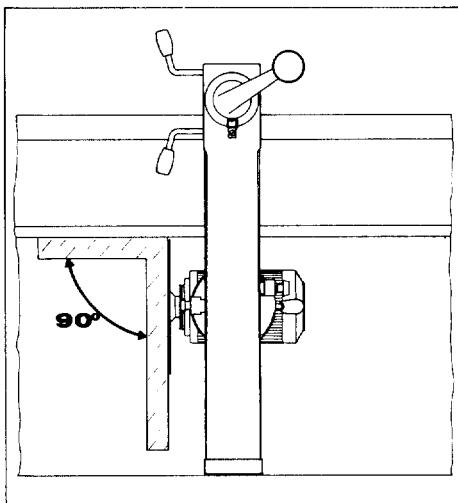

Fig. 8
With the miter engaged and arm clamp handle locked, place a wide board (25x300 mm approx if available) against the guide strip. Cross cut this board. Check cut with a steel square. If cut is not square, the arm is out of alignment with the guide fence. (Fig. 8).
Accertarsi che il nasello del punto fisso del braccio sia bene inserito nella cava a "O" del collare colonna e che la leva di bloccaggio del braccio sia ben stretta; mettere una tavola abbastanza larga contro la battuta e troncarla. Controllare il taglio con una squadra di acciaio, se questa non è perpendicolare al lato posto contro la battuta significa che il braccio non è perpendicolare alla battuta stessa e quindi necessita una regolazione. (Fig. 8).
Engager le verrou d'onglet et bloquer la poignée de serrage du bras, placer une planche assez large (25x300 mm) contre la règle-guide. Tronçonner cette planche. Contôler la coupe avec une équerre d'acier. Si la coupe n'est pas d'équerre, le bras n'est pas aligné avec la règle-guide. (Fig. 8).
Den Ausleger auf 90° einrasten und feststellen. Ein breites Brett (ca. 25x300 mm) gegen der Anschlagleiste legen. Das Brett durchschneiden. Den Schnitt mit einem Anschlagwinkel prüfen. Wenn der Schnitt nicht im rechten Winkel ist, muss der Ausleger nachgestellt werden. (Fig. 8).
Na de arm in haakse stand t.a.v. de langsgeleider te hebben geblokkeerd, wordt een brede plank (ca. 25x300 mm, indien beschikbaar) tegen de langsgeleider geplaatst. Zaag deze plank door. Controleer de zaagsnede met een stalen winkelhaak. Wanneer de zaagsnede niet haaks is, is ook het zaagblad niet haaks t.a.v. de langsgeleider. (Fig. 8).
1. Loosen arm clamp handle (A). (Fig. 9). 2. Loosen the 2 nuts (B). 3. Place steel square on table top with one angle against guide fence and the other a angle of 0° cross-out. (Fig. 8). 4. Move saw carriage and blade forward along steel square to determine which way arm must be adjusted. 5. If saw blade moves toward square as it comes forward disengage mitre latch (C), with handle (D), loosen mitre adjusting screw (E1) and tighten mitre adjusting screw (E2), re-engage mitre latch. Check and repeat if necessary. 6. If saw blade moves away from square as it comes forward, disengage mitre latch (C) with handle (D). Loosen mitre adjusting screw (E2) and tighten mitre adjusting screw (E1), re-engage mitre latch. Check and repeat if necessary. 7. When saw travel is parallel to square for entire length, lock adjusting screws in place by tightening nuts (B). Ensure that adjusting screws (E1 and E2) are held in position, when tightening nuts (B). Observation: Do not tighten adjusting screws (E1 and E2) to such an extent that mitre latch cannot move freely.
1. Sbloccare la leva bloccaggio braccio (A) (Fig. 9). 2. Allentare i due dadi (B). 3. Mettere la squadra di acciaio sul tavolo con un lato contro la battuta (Fig. 8). 4. Fare avanzare la lama lungo l'altro lato della squadra in modo da determinare la correzione da dare al braccio. 5. Se la lama, avanzando, si sposta a sinistra; sbloccare il nasello del punto fisso (C) agendo sulla leva (D), allentare più o meno il grano sinistro (E¹) secondo l'entità da dare alla correzione e stringere il grano destro (E²). Rimettere a posto il nasello del punto fisso (C) agendo sempre sulla leva (D) ed eseguire un altro controllo della perpendicolarità. Se la regolazione data non fosse sufficiente regolare di nuovo. 6. Al contrario, se avanzando, la lama si sposta a destra, procedere in senso inverso, sbloccare sempre il nasello (C) allentare il grano destro (E²), serrare quello sinistro (E¹) e procedere ad un nuovo controllo, eventualmente regolare di nuovo. 7. Quando la lama è parallela alla squadra su tutta la lunghezza bloccare definitivamente i due grani (E¹) (E²) mediante i dadi (B). Attenzione! Non stringere troppo le viti (E¹-E²) in modo da non impedire il movimento della leva punto fisso.
1. Desserrer la poignée de serrage du bras (A) (Fig. 9). 2. Desserrer les deux écrous. (B). 3. Poser l'équerre d'acier sur la table avec un des côtés contre la règle-guide et l'autre sur l'angle 0° pour la coupe transversale. (Fig. 8). 4. Faire avancer le chariot et la lame le long de l'équerre pour déterminer dans quel sens le bras doit être ajusté. 5. Si la lame se rapproche de l'équerre, dégager le verrou d'onglet (C) avec le levier (D), desserrer la vis de réglage d'onglet (E1) et serrer la vis de réglage d'onglet (E2), ensuite resserrer le verrou d'onglet. Vérifier l'alignement et répéter l'opération si nécessaire. 6. Si la lame s'éloigne de l'équerre, dégager le verrou d'onglet (C) avec le levier (D), desserrer la vis de réglage d'onglet (E2) et serrer la vis de réglage d'onglet (E1), ensuite resserrer le verrou d'onglet. Vérifier l'alignement et répéter l'opération si nécessaire. 7. Lorsque la scie se déplace parallèlement à l'équerre sur toute sa longueur, serrer les vis de réglage en bloquant les écrous (B). Assurez-vous que les vis de réglage (E1 et E2) restent bien en position lors du serrage des écrous de blocage (B). Remarque: ne serrez pas les vis de réglage E1 et E2 au point d'empêcher le libre mouvement du verrou d'onglet.
1. Handgriff (A) lösen (Fig. 9). 2. Die zwei Muttern (B) lösen. 3. Einen genauen Winkel gegen die Anschlagleiste halten und die andere Seite des Winkels gegen das Sägeblatt (Fig. 8). 4. Führe die Säge am Anschlagwinkel vorbei um festzustellen, in welcher Richtung der Ausleger nachgestellt werden muss. 5. Muss der Ausleger nach rechts nachgestellt werden, Raste (C) lösen mit Handgriff (D). Einstellschraube (E1) etwas lösen und Einstellschraube (E2) im gleichen Masse anziehen. Erneut einrasten. Prüfen und wenn notwendig wiederholen. 6. Muss der Ausleger dagegen nach links nachgestellt werden, dann Raste (C) lösen mit Handgriff (D). Einstellschraube (E2) etwas lösen und Einstellschraube (E1) im gleichen Masse anziehen. Einrasten und prüfen und wenn notwendig wiederholen. 7. Nach der Einstellung die Einstellschrauben durch Anziehen der Muttern (B) fixieren. Sicherstellen, dass die Einstellschrauben (E1 und E2) in Position gehalten werden, während des Anziehens der Muttern (B). Wichtig: Die Einstellschrauben E1 und E2 nicht zu stark anziehen, damit die Bewegungsfreiheit nicht beeinträchtigt wird.
1. Draai armklem (A) los. (Fig. 9). 2. Draai de 2 moeren (B) los. 3. Leg een stalen winkelhaak op het tafelblad met één zijde tegen de langsgelider en de andere zijde haaks (0° op de gradenboog). (Fig. 8). 4. Verplaats nu de motor met het zaagblad langs de stalen winkelhaak om vast te stellen op welke wijze de regeling moet worden uitgevoerd. 5. Wanneer het zaagblad zich, bij het naar voren komen, naar de aanliggende zijde van de winkelhaak beweegt: de versteknok (C) loszetten met hendel (D), stelschroef (E1) loszetten en stelschroef (E2) aandraaien. Kontroleren en indien nodig herhalen. 6. Wanneer het zaagblad zich, bij het naar voren komen, van de aanliggende winkelhaak verwijderd: de versteknok (C) loszetten met hendel (D). Stelschroef (E2) loszetten en stelschroef (E1) aandraaien. De versteknok terugplaatsen. Kontroleren en indien nodig herhalen. 7. Wanneer de zaag over de gehele lengte parallel met de winkelhaak loopt: de stelschroeven vastzetten door de moeren (B) aan te draaien. Zorg ervoor dat de stelschroeven (E1 en E2) tijdens het aandraaien van de moeren (B) op hun plaats blijven. Opmerking: De stelschroeven (E1) en (E2) niet zodanig aandraaien dat de versteknok niet vrij kan worden bewogen.